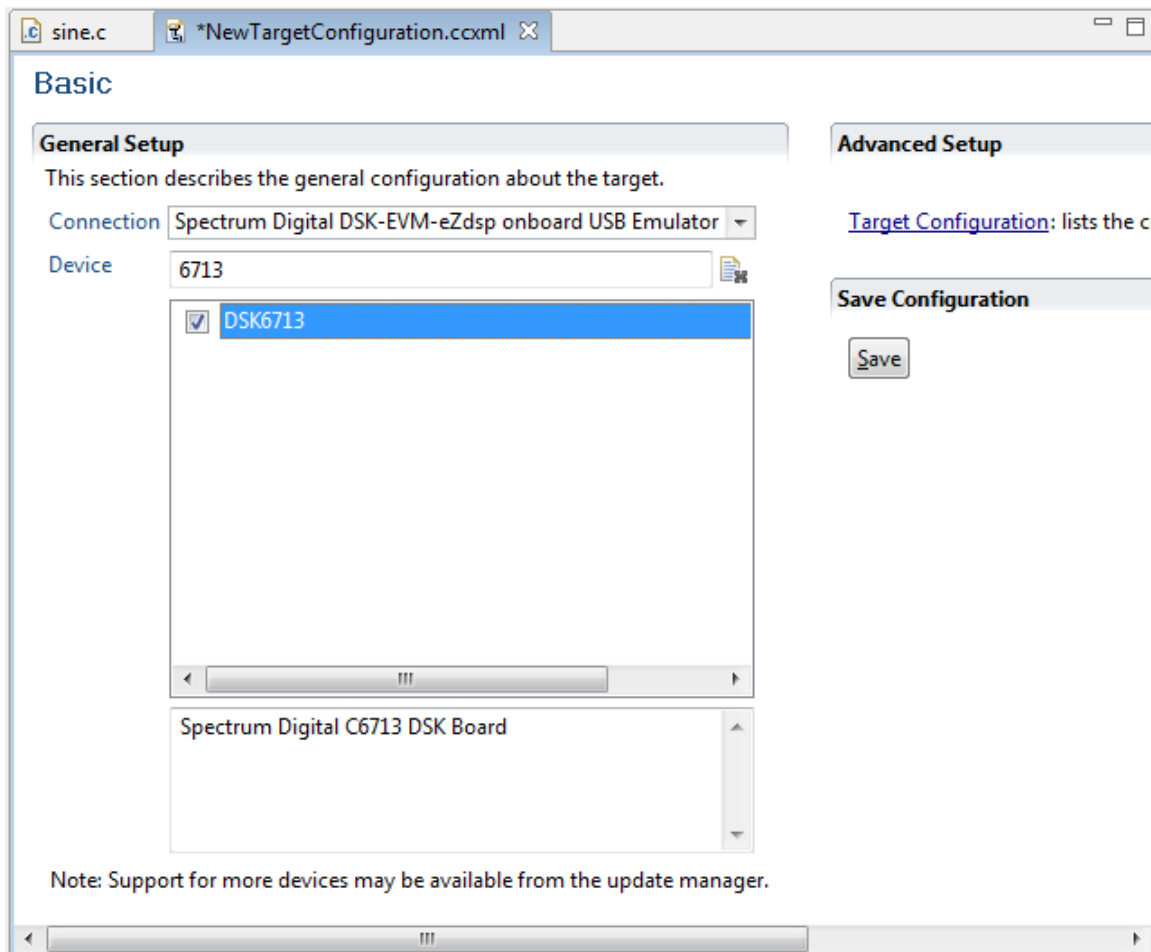

Figure 9: Attaching to the hardware
- Figure 9 shows the settings to ensure that you can talk to the 6713 hardware. After you have completed these settings hit the **Save** button.